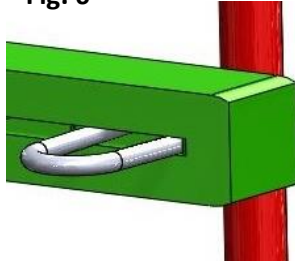

Fig. 7
2. Gripping the stick with your hand and away from the staple being used, strike the staple with the hammer starting it into the pole (Fig. 7).